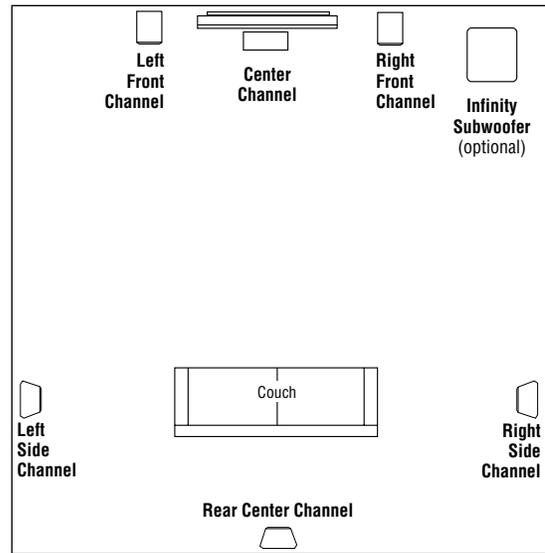

Figure 4. This overhead view shows a typical home theater plan with a single rear-center surround channel.
When using the C255ES as a rear speaker(s) in a 6- or 7-channel home theater system, refer to Figures 4 and 5. The speaker(s) should be mounted on the rear wall facing the listening area, between the side channel speakers. If you are using one rear speaker, it should be mounted as close as possible to the center of the listening area. When using two rear speakers, they should be spaced evenly within the width of the listening area.
1. Decide where you want to mount the speaker. Ideally, it should be mounted in the center of the rear wall, similar to how it would be mounted in a 6-channel system (Figure 4).